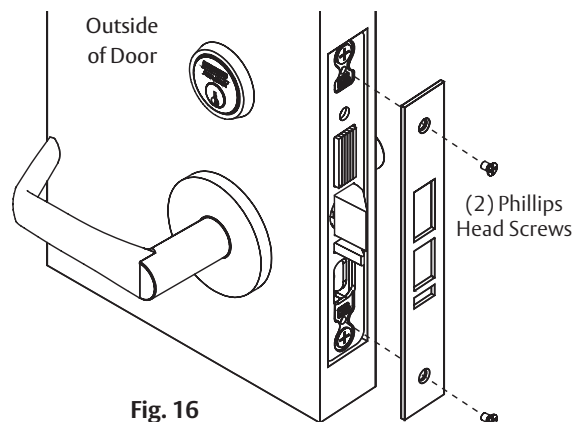

Fig. 16
11. Attach front plate with two (2) Phillips head screws. (Figure 16)